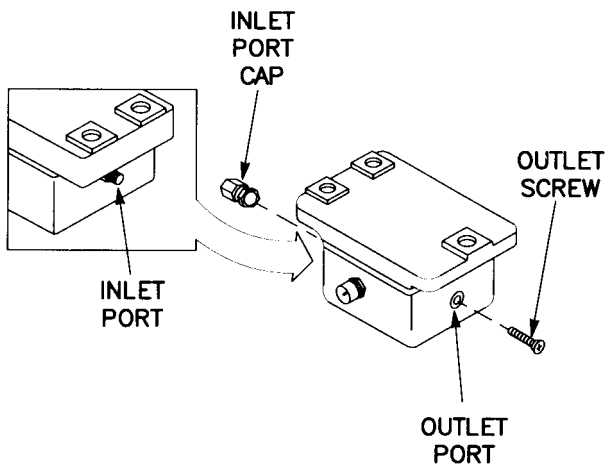

Figure 3-5 Cant Angle Sensor
- (1) Perform purging and charging procedure para 2-5.b.
- (2) Purge each unit at 8 psig for 5 minutes.
- (3) Charge each unit at 1 psig maintaining pressure for 10 seconds.
- (4) Leak test for a minimum of 5 minutes.
b. Cant Angle Sensor (fig. 3-5). Refer to para 3-5.a for procedures.